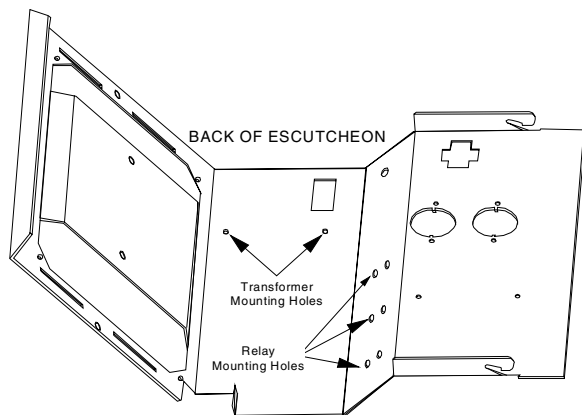

Figure 2
3. Lift the control panel up so the control panel is free of its hinges. Orient the control panel so there is easy access for mounting components to the control panel (Figure 2).
4. Using the two #8 screws that are provided, screw the transformer to the control panel in the transformer mounting holes provided in the panel (Figure 2).
5. Mount the relay in one of the three pairs of relay mounting holes in the control panel making sure that the threaded stud is in the smaller hole and the metal tab is in the larger hole. Screw the provided nut onto the threaded stud from the opposite side of the control panel (Figure 2).